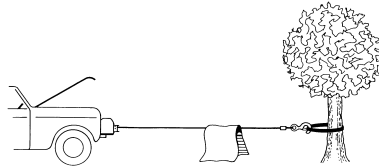

Figure 5
10. It is a good idea to lay a heavy blanket or jacket over the wire rope near the hook end when pulling heavy loads (Figure 5). If